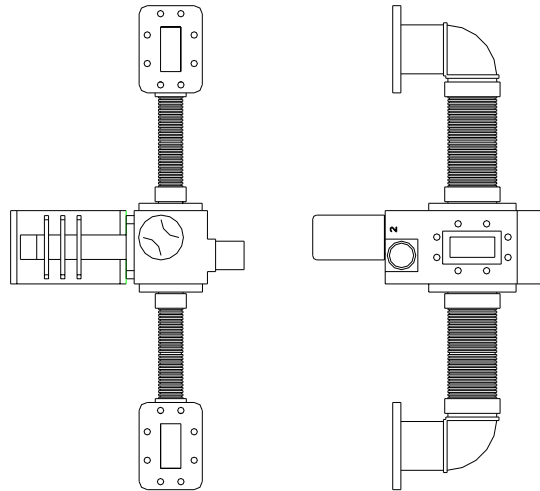

Figure 3 – C-Band Redundancy Control Switch/Term/Flex WG Sub-Assy
1. Attach the Redundancy Control Switch/Term/Flex WG Assembly (See Figure 3) with the mounting bracket PN 210497, using the appropriate hardware as specified on the assembly drawing.